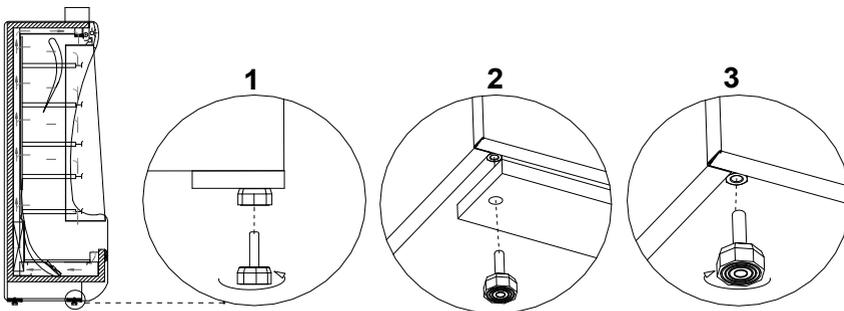

Fig.3 Removing the wooden platform
- Unpack the device and remove the wooden platform from the basis Fig.3 (p.15)